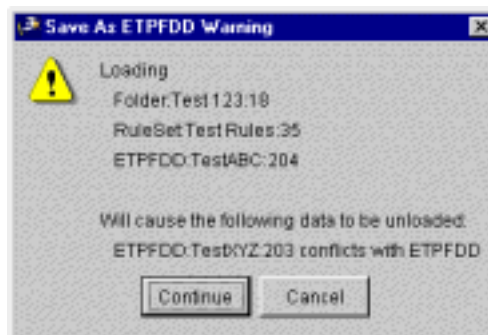

Figure 5.13 Save As ETPFDD Warning Window
- To work with the new ETPFDD, click Yes. The CONFIRM window closes and the Save As ETPFDD Warning window opens (Figure 5.13).